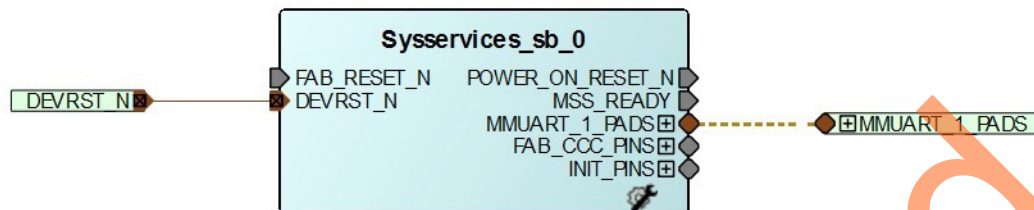

Figure 10 • Updating Sysservices_sb_0
19. Select **File > Save** to save **Sysservices_sb_0**. Select the **Sysservices** tab on the Smart Design canvas, as shown in Figure 10.